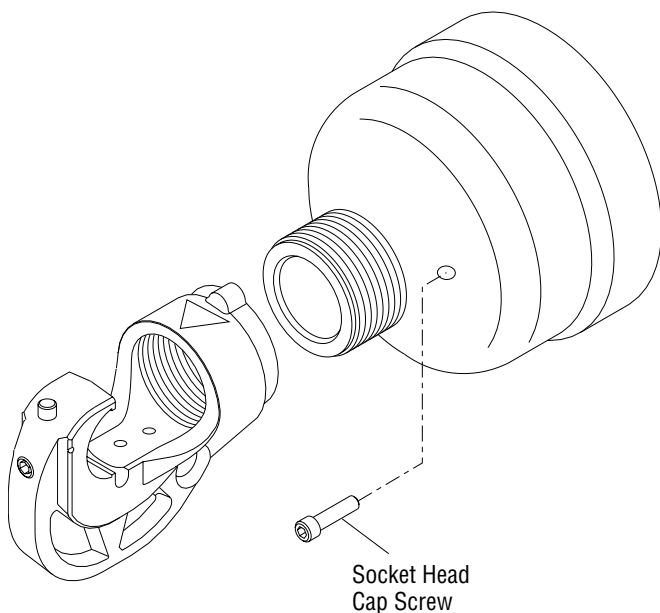

Figure 3
1. Remove the socket head cap screw from the cylinder. Refer to Figure 3.